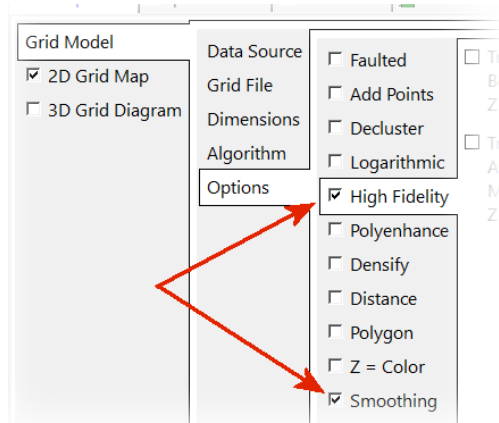

Figure 35
- Click on the *Options* tab and enable the *High Fidelity* and *Smoothing* options (Figure 35). The High-Fidelity option will adjust the grid to make sure that the control points values are “honored” because the gridding method may implicitly create a grid that over-smooths the actual data. Conversely, the Smoothing option will minimize the angularity (kinks) within the contours that are based on the grid.